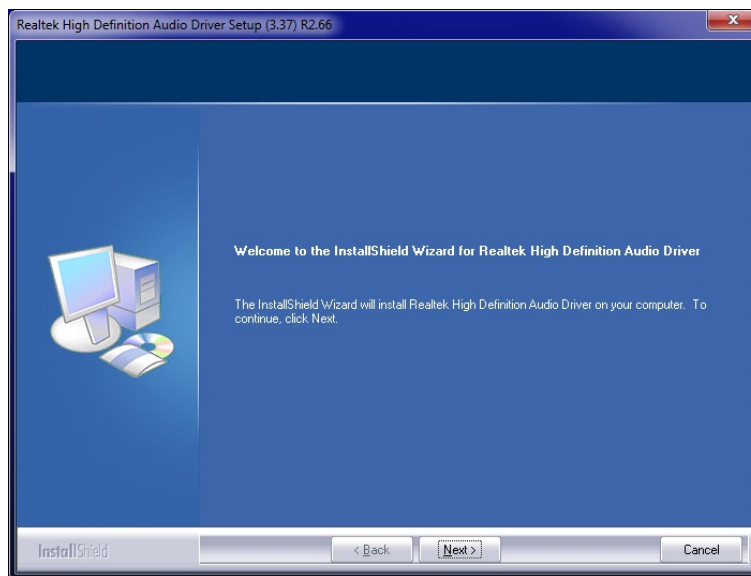

Figure 6-17: InstallShield Wizard Welcome Screen
Step 5: Once initialized, the **InstallShield Wizard** welcome screen appears (**Figure 6-17**).